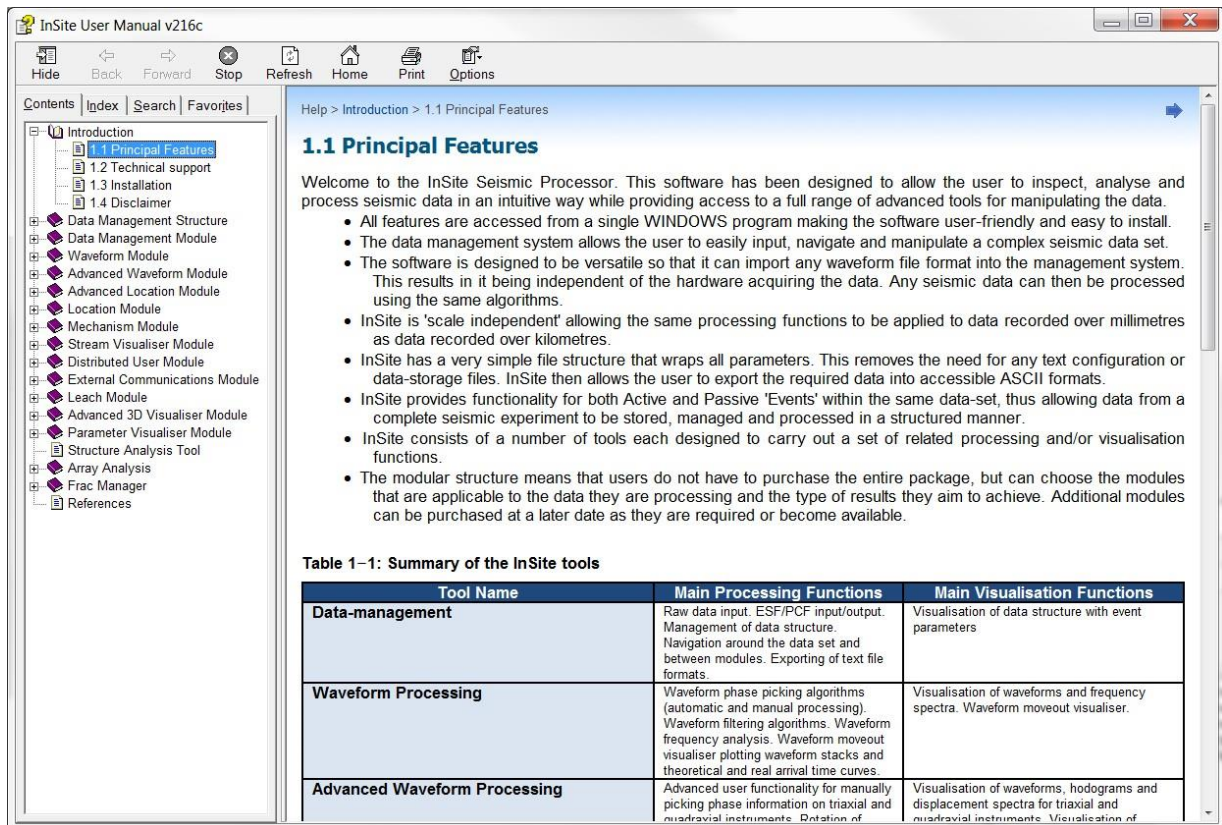

Figure 5-13: Help system in InSite. The three tabs can be used to navigate between Contents, Index, and Search modes.
- Contents - view the Contents of the InSite User Manual (The Help sub-menu). By selecting the different tools, the appropriate section can be found. (Figure 5-13)